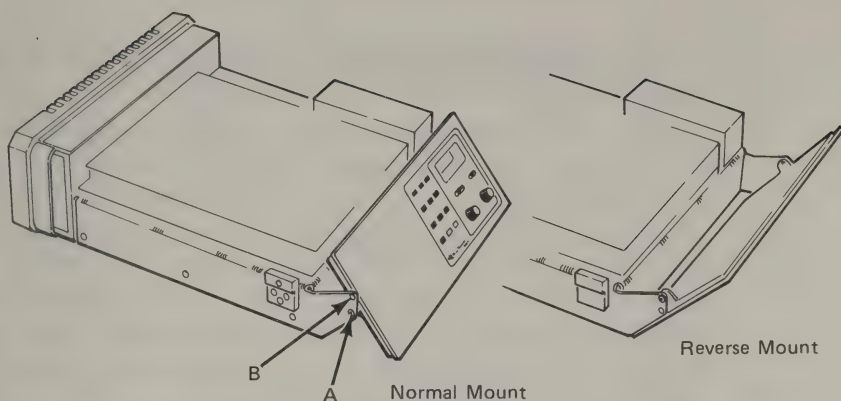

Figure 3-2. Front Panel Reversal
5. Note that the front panel is attached to the chassis with two screws (one on each side). See figure 3-2. Remove the two screws and mount the front panel to the chassis using the correct set of holes. Use holes "A" for normal mount and holes "B"